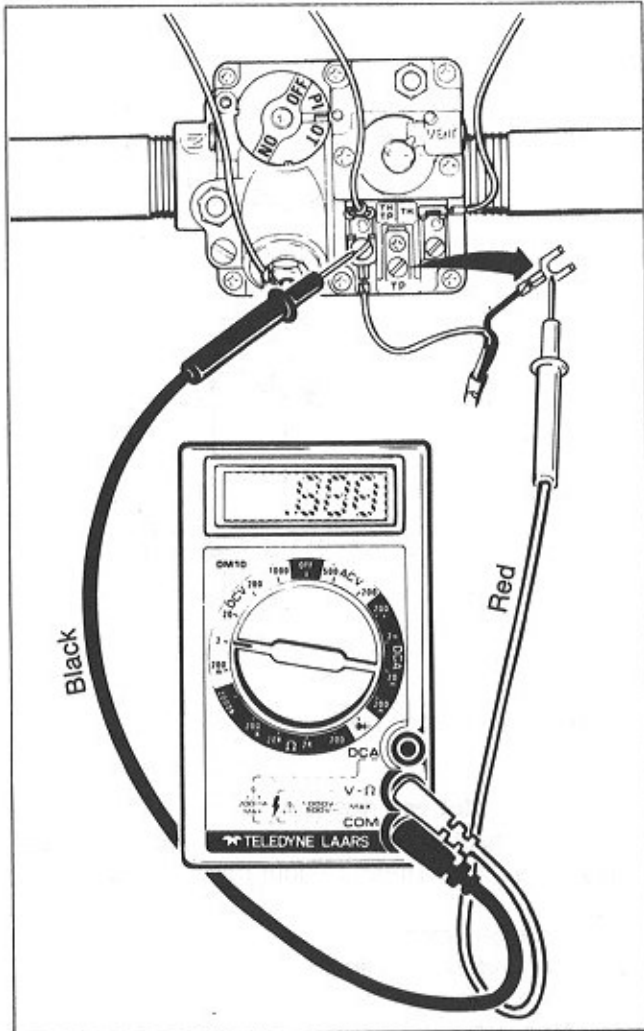

Figure 20. Open Circuit Test
- Touch the black meter lead to terminal TH/TP on the gas valve (see Fig. 20).